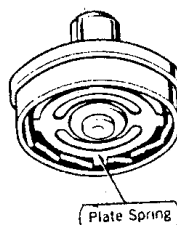

Figure 3
**Take-up spool tension** (Figure 3). Load torque-measuring cassette. Select "PLAYBACK", and check meter scale on cassette for 40 to 70 gr reading. To adjust, turn plate spring below take-up spool carrier as shown.